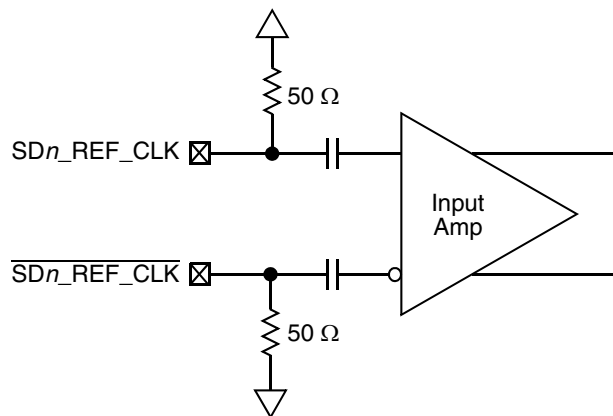

Figure 41. Receiver of SerDes Reference Clocks
Figure 41 shows a receiver reference diagram of the SerDes reference clocks.
- The SDn_REF_CLK and $\overline{\text{SDn_REF_CLK}}$ are internally AC-coupled differential inputs as shown in Figure 41. Each differential clock input (SDn_REF_CLK or $\overline{\text{SDn_REF_CLK}}$) has a 50- Ω termination to SGND_SRDSn (xcorevss) followed by on-chip AC-coupling.